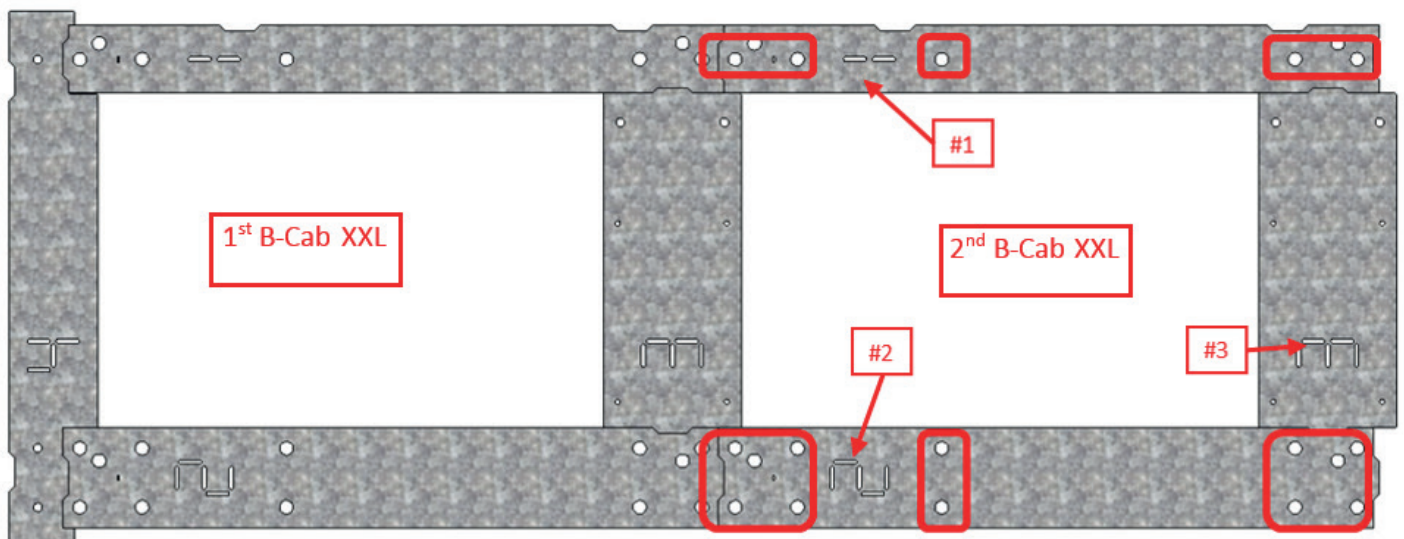

Figure 59. 2nd B-Cab XXL Drilling Mark Location
6. Mark and Drill the 2nd B-Cab XXL Holes: Mark the location of the 2nd B-Cab XXL template holes as shown in red (refer to Figure 59). Drill the required holes as per the selected hardware.